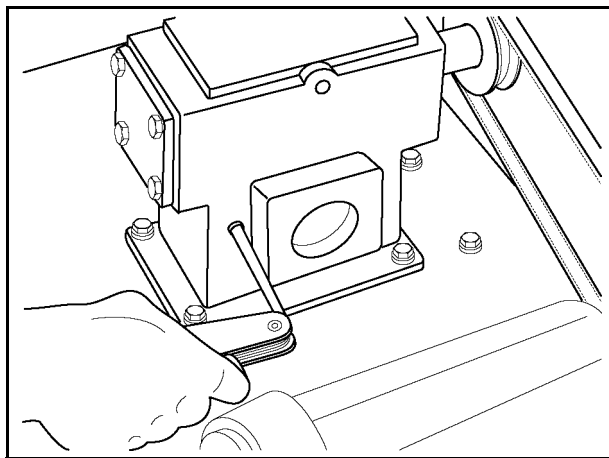

Figure 7J
10. Check the oil level in the gearbox by removing the plug and noting if the oil is at this level. Add SAE 80-90 gear lubricant if required. (See Figure 7J)